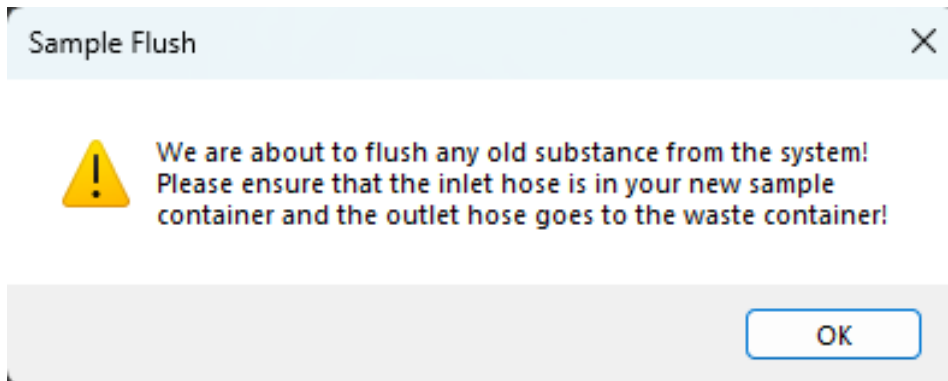

Figure 8A: Flush Prompt
2. The system prompts the user to connect the outlet hose to the waste oil container (Figure 8A)